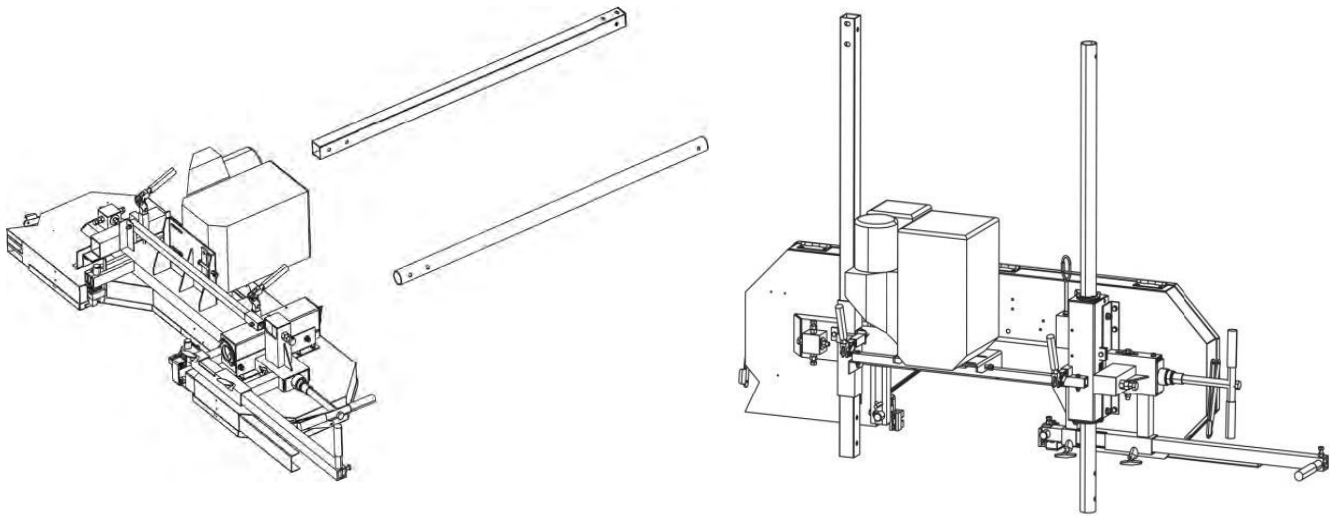

Fig.5-9: Mounting posts
4.Mount the round vertical post (Fig. 5-9, shown right) to the wheel assembly using the two screws and backplate. Repeat the same step for the square vertical column (Fig. 5-9, shown left).